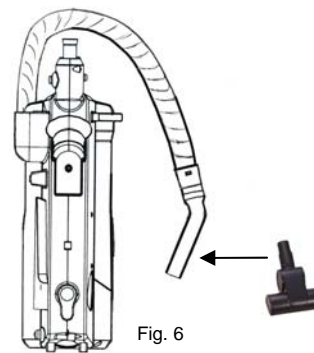

Fig. 6
- Remove the flexible hose from the hose connector. (Fig. 6)